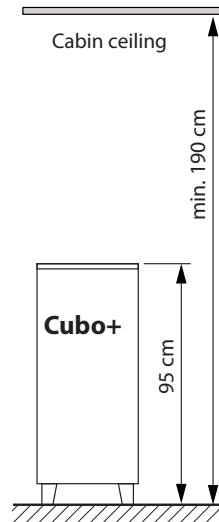

Fig. 1
- The minimum height of the sauna cabin should be 1.90 m on the inside (Fig. 1)